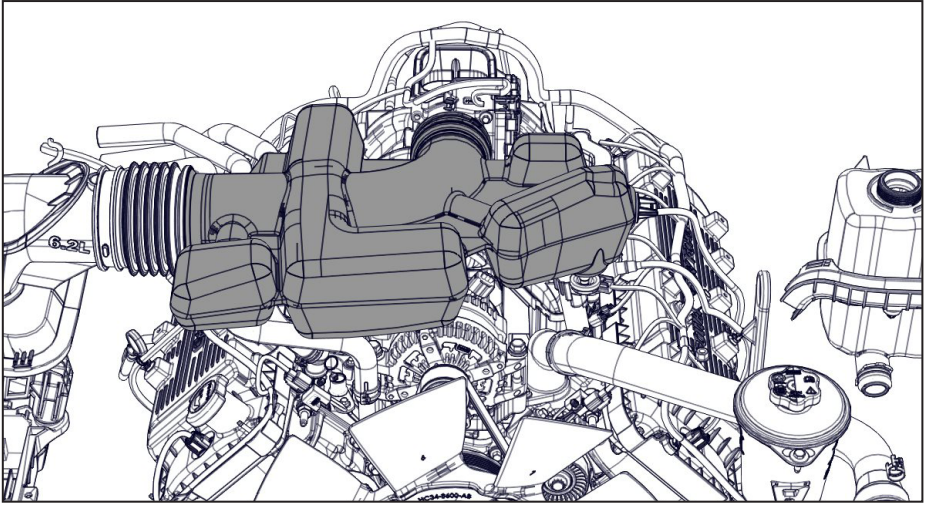

Figure 5 — Remove air intake
- Remove the air intake and cover the ports to prevent debris entering the engine (Figure 5).